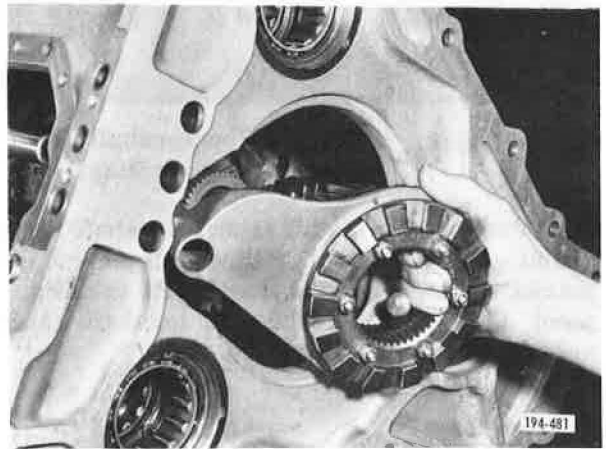

Figure 5-626. Installing Direct and Lo-Range Sliding Clutch
14. Install previously assembled Direct and Lo-range sliding clutch on mainshaft and shifter rail. See Figure 5-626.